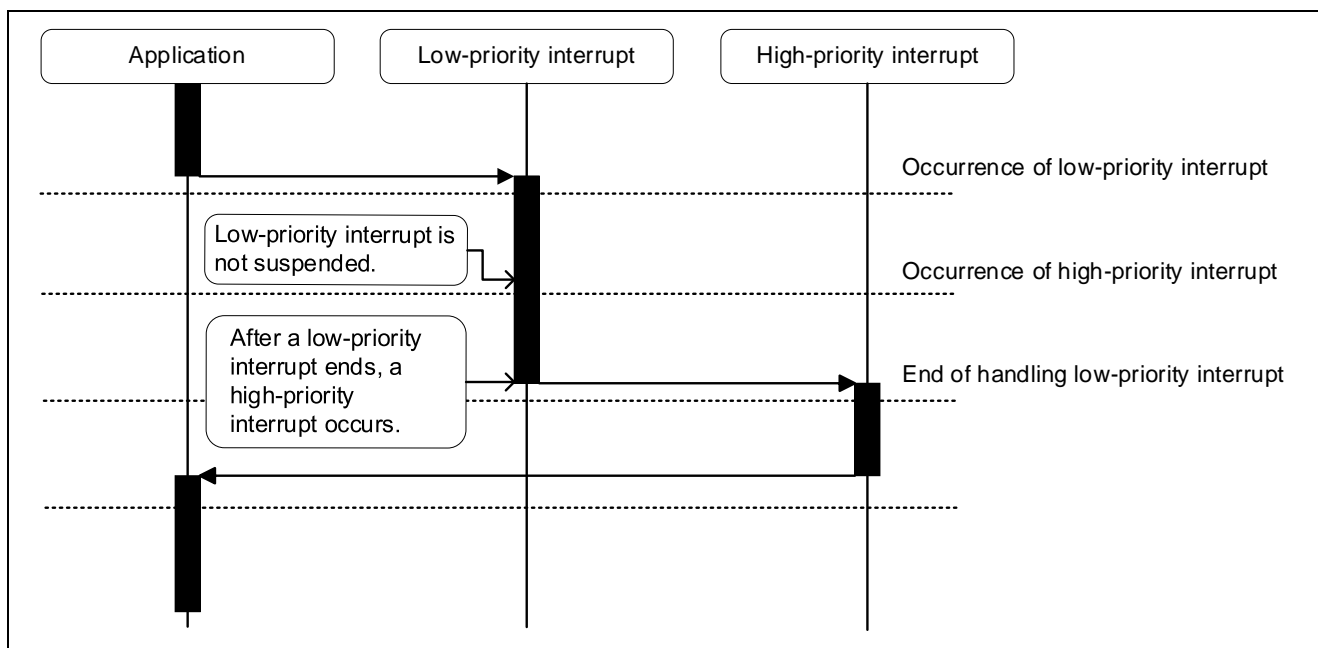
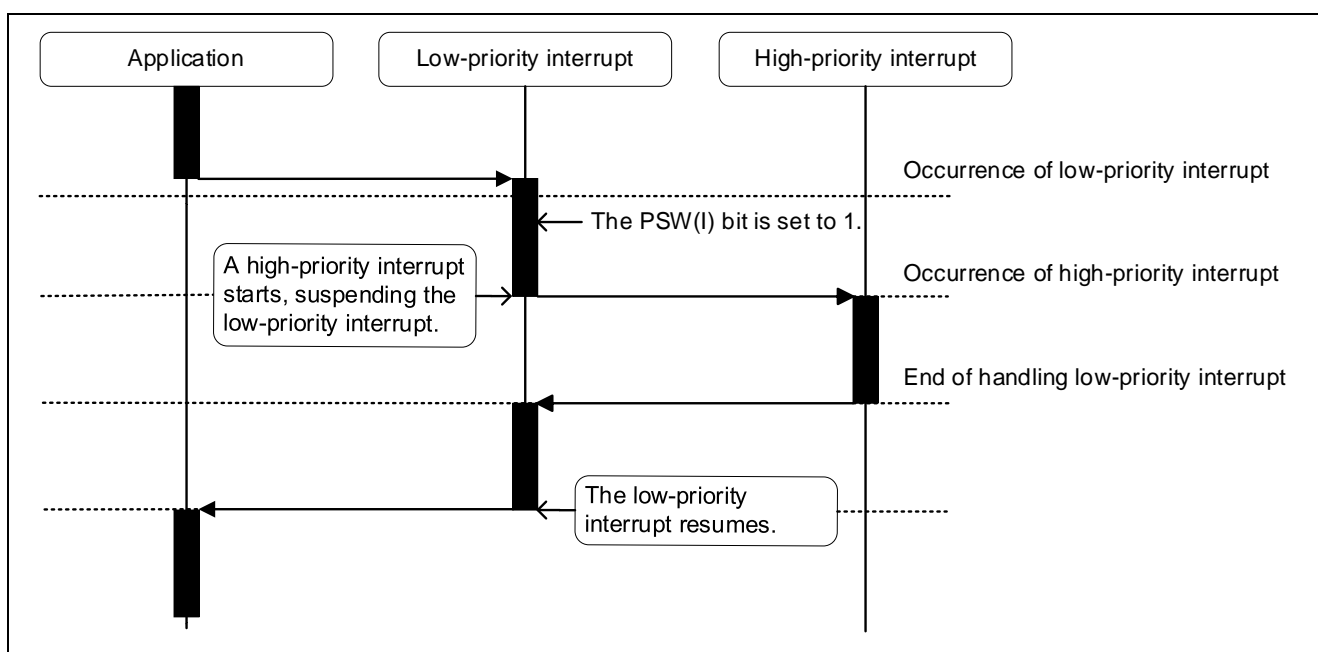

Figure 1.18 Interrupt Handling Sequence on the RX231 Device (when the PSW(I) bit is cleared)
Figure 1.19 Interrupt Handling Sequence on the RX231 Device (when the PSW(I) bit is set)
The RX231 device supports multiple interrupts. To handle multiple interrupts on the RX231 device, it is necessary to set the PSW(I) bit to 1 (enable interrupts) in the interrupt handler. Figure 1.18 shows the sequence of operations performed when multiple interrupts are prohibited. Figure 1.19 shows the sequence of operations performed when multiple interrupts occur.